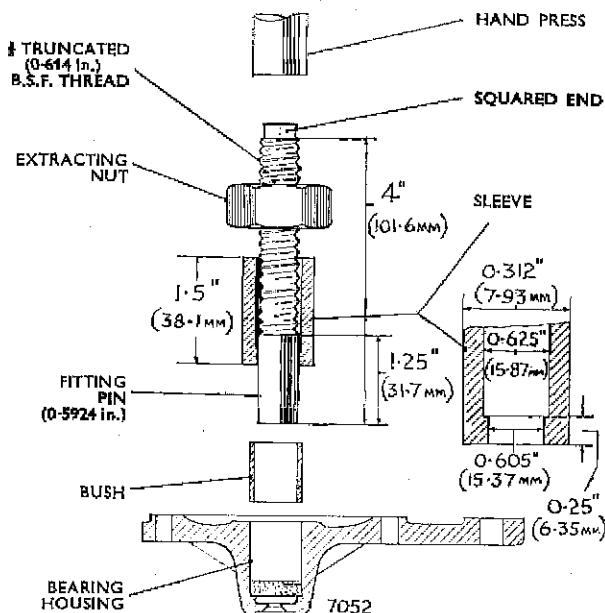

Fig. 11. Fitting porous bronze brush
3. Insert the felt ring and felt ring retainer in the bearing housing, then press the new bearing bush into the end bracket, using a self extracting tool of the type and in the manner illustrated in Fig. 11, the fitting or mandrel portion being of .5924 in. (15.046 mm.) diameter and highly polished.